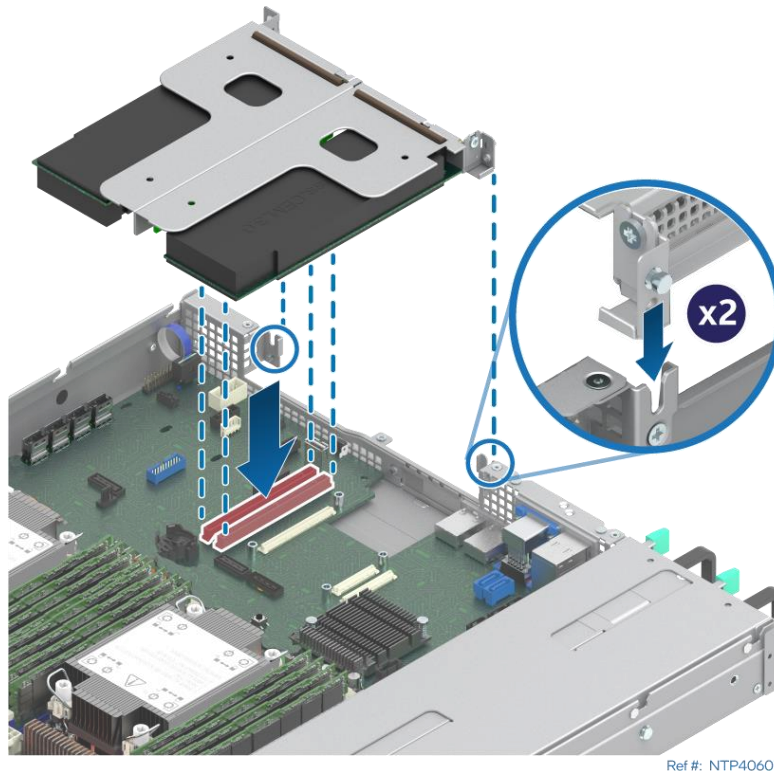

Figure 28. Riser Card Assembly Installation
6. Carefully reinstall the riser card assembly into the system (see Figure 28)